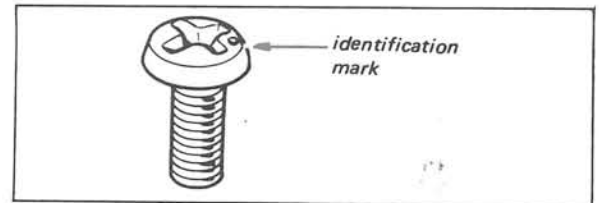

Fig. 2-1 ISO screw
**Note:** All screws in the TAD-43F are manufactured to the specifications of the International Organization for Standardization (ISO). This means that the new and old screws are not interchangeable. ISO screws have a different number of threads per mm compared to the old ones. The ISO screws have an identification mark on their heads as shown in Fig. 2-1.